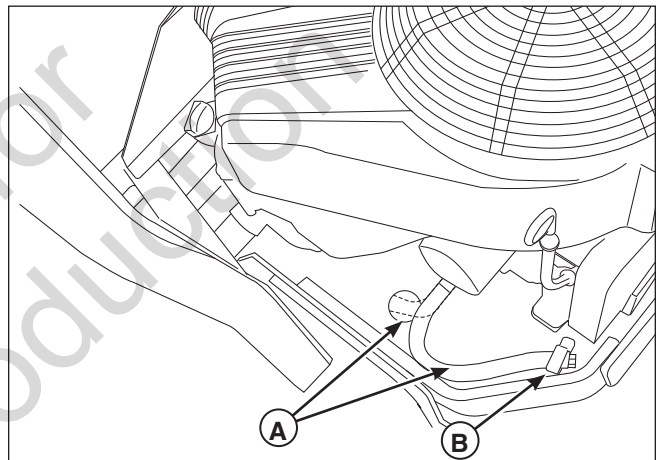

Figure 15. Engine Oil Drain (Briggs & Stratton Vanguard Model Shown)
2. Remove the oil drain hose (A, Figure 15) from the cable clamp (B) on the right-hand side of the frame and route the hose through hole in the engine deck as shown in Figure 15.
3. Place a small pan under the oil drain hose to catch the oil. Using the appropriate tools, remove the cap from the oil drain hose (A) and drain the engine oil.